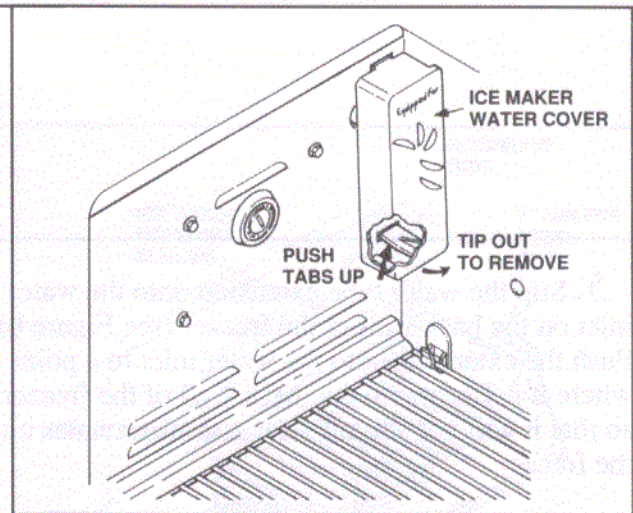

Figure 3
- d. Remove and discard the ice maker water cover from the back wall of the freezer. To do this, push upward against the tab inside of the cover using finger pressure; then tip the lower end of the cover toward you and disengage the upper tab. See Figure 3.